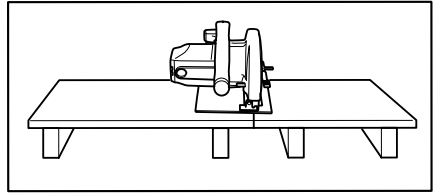

Fig. 1
8. **Support Large Panels (Fig. 1 & 2).**
Large panels must be supported as shown in Fig. 1 to minimize the risk of blade pinching and kickback.
10. **Guard Against Kickback. (Fig. 1 & 3)**
Kickback occurs when the saw stalls rapidly and is driven back towards the operator. Release switch immediately if blade binds or saw stalls. Keep blades sharp. Support large panels as shown in Fig. 1. Use fence or straight edge guide when ripping.